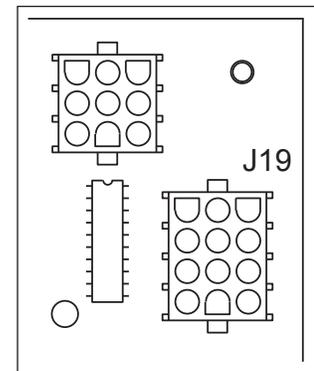

Figure 11: J19 Address Jack
- For older 16-column and 4-column drivers, addresses are set with jumper wires in a 12-pin plug which mates with jack **J19** on the driver (**Figure 11**). It may be possible to reuse the same address plug from the driver that was replaced. If not, first refer to the tables below or an older driver being replaced to determine the correct address setting. Then see **DWG-115078** in **Appendix C** for a listing of the wire/pin connections for driver addresses 1 – 128.